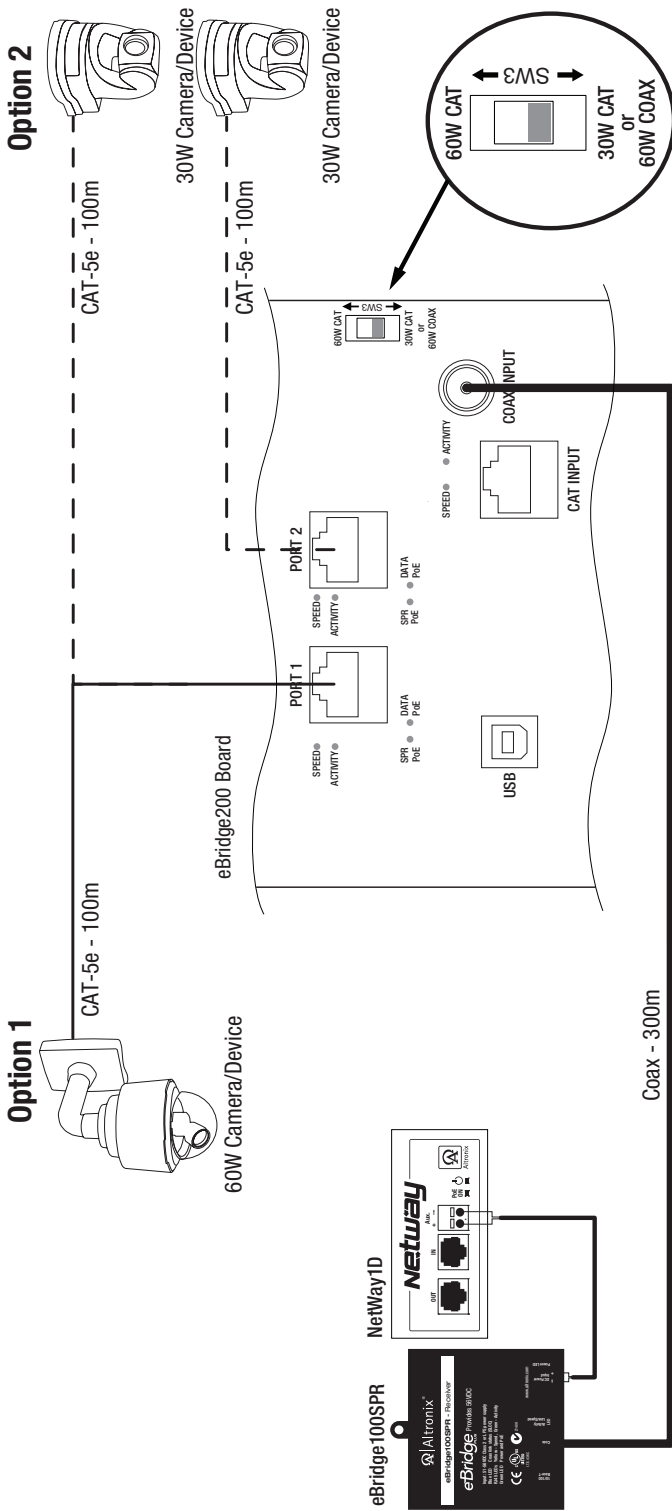

Fig. 1
2. Connect 56VDC UL Listed Class 2 or limited power source to terminals marked [Power – Input +] (polarity observed) (Fig. 1, pg. 2). Use 22AWG-16AWG wire for this connection.
3. Connect structured cable from ethernet switch/NVR (network video server) to RJ45 jack marked [10/100 BaseT] (Fig. 1, pg. 2).
**Note:** The eBridge is designed to accommodate Megapixel, HD720, HD1080 and VGA (SD) cameras. It is important to note that some high resolution and high frame rate cameras may demand faster headend processing ability, such as a PC graphics card to present a quality image. If the headend processing equipment is insufficient in speed, the image may show pixelation and latency. It is advisable to pretest system if unsure. Alternatively, frame rate and resolution may be reduced to accommodate system equipment.